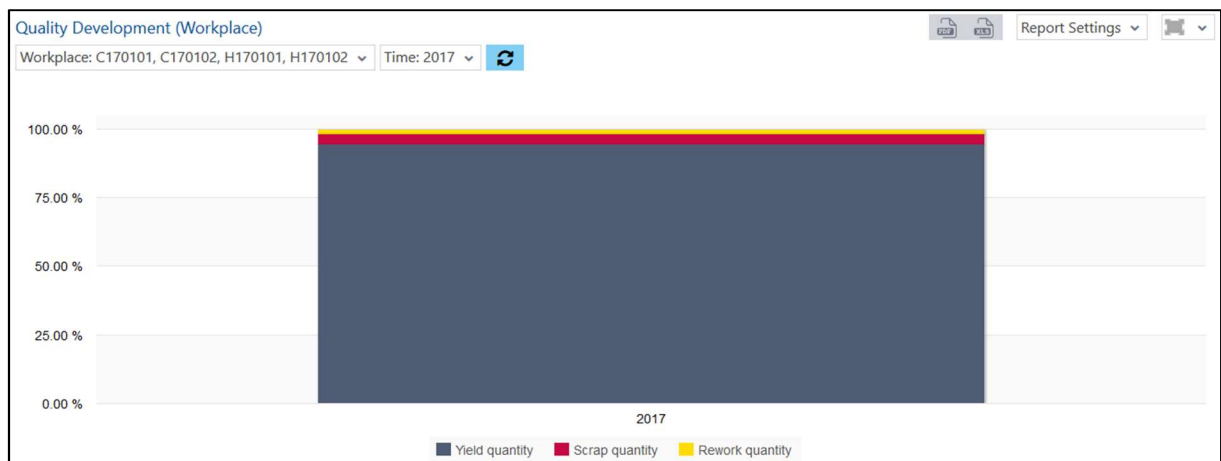

Fig. 101: Quality Development (Workplace) as a column chart
- Quality Development (Workplace) as a column chart (Fig. 101):